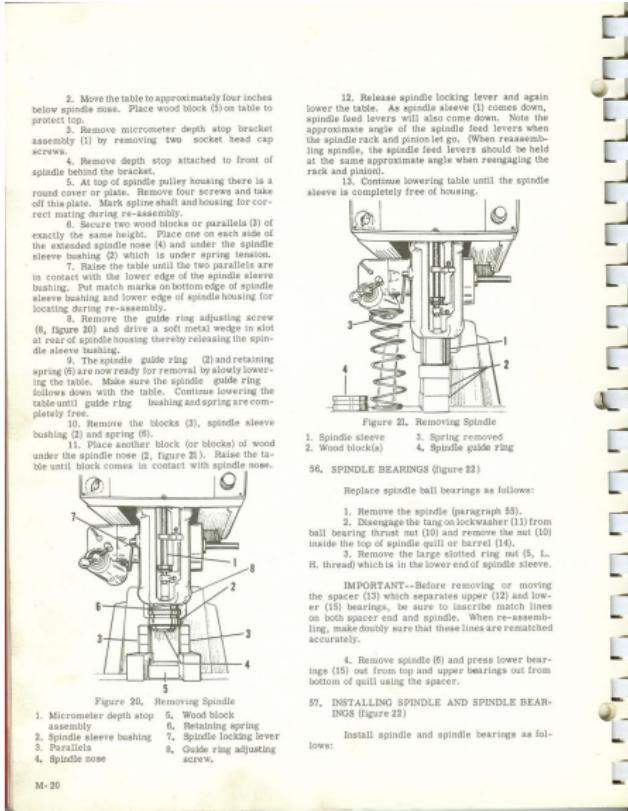

Figure 20. Removing Spindle
### 55. REMOVING SPINDLE (figure 20 and 21)
2. Move the table to approximately four inches below spindle nose. Place wood block (5) on table to protect top.
3. Remove micrometer depth stop bracket assembly (1) by removing two socket head cap screws.
6. Secure two wood blocks (3) of exactly the same height. Place one on each side of the extended spindle nose (4) and hold the spindle sleeve nose (2) against the wood blocks to exert spring tension.
8. Remove the guide ring adjusting screw (8, figure 20) and drive a soft metal wedge in slot at rear of housing thereby releasing the spindle sleeve bushing.
9. The spindle guide ring (2) and retaining spring (6) are now ready for removal by slowly lowering the table until the spindle sleeve bushing follows down with the table. Continue lowering the table until guide ring bushing and spring are completely free.
10. Remove the blocks (3), spindle sleeve bushing (2) and spring (6).
11. Place another block (or blocks) of wood under the spindle nose (2, figure 20). Raise the table until block comes in contact with spindle nose.